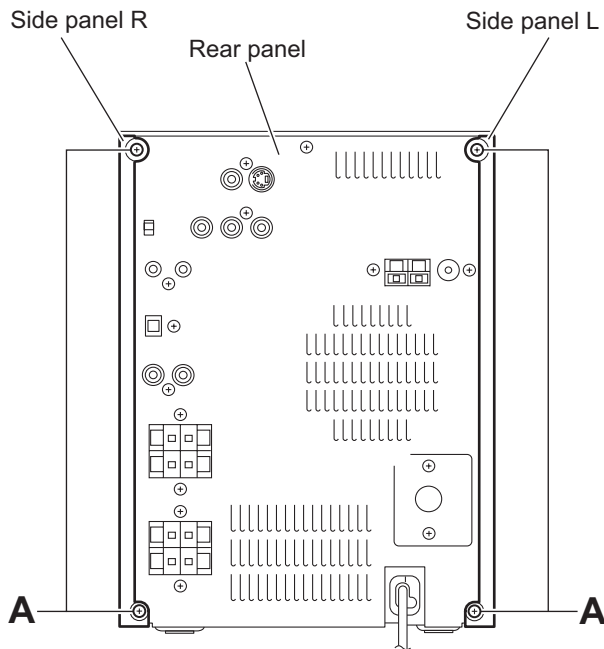

Fig.1
(See Figs.1 to 4)
- (1) From the back side of the main body, remove the four screws **A** attaching the side panels L/R to the rear panel. (See Fig.1.)